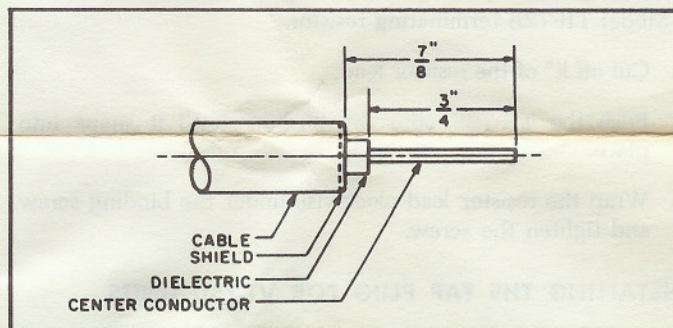

Fig. 1 - Preparing Feeder Line Cable
2. Cut the feeder line at the center of the loop and remove $\frac{3}{8}$ " of the cable outer jacket on both sections (Fig. 1). Fan the shield back over the outer jacket and trim the shield close to the jacket. Next remove $\frac{3}{4}$ " of dielectric.